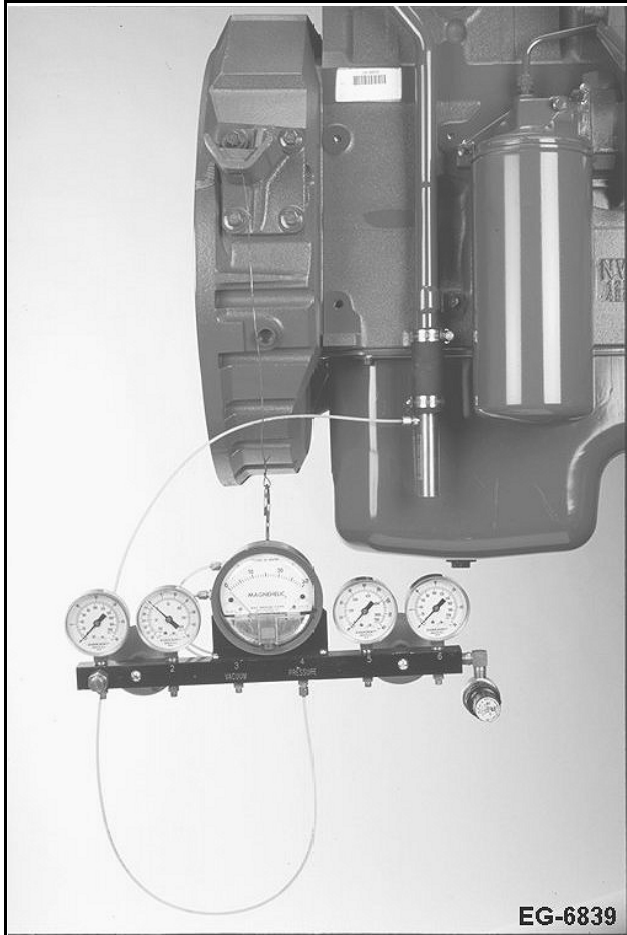

Figure 61 Crankcase Pressure Test
5. Connect a line from the crankcase breather tool to a water manometer or the magnehelic gauge on Gauge Bar, (See Figure 61, page 120).